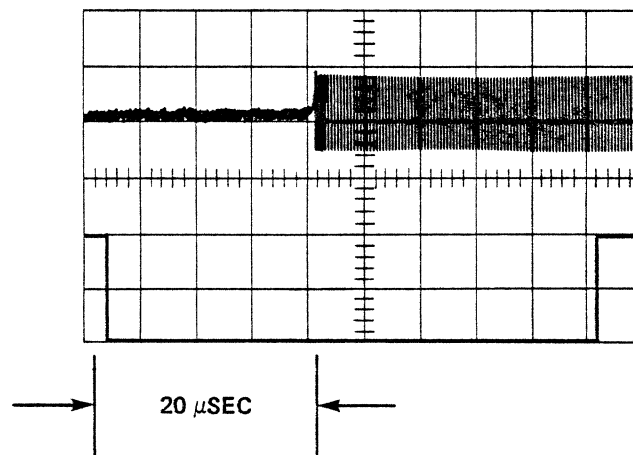

Figure 2. Circumferential Waveform
5. Adjust the sector position variable resistor (A8R2) for a 20-microsecond delay from the INDEX PULSE (beginning of sweep) to the start of the first data pulse. (See Figure 2.)